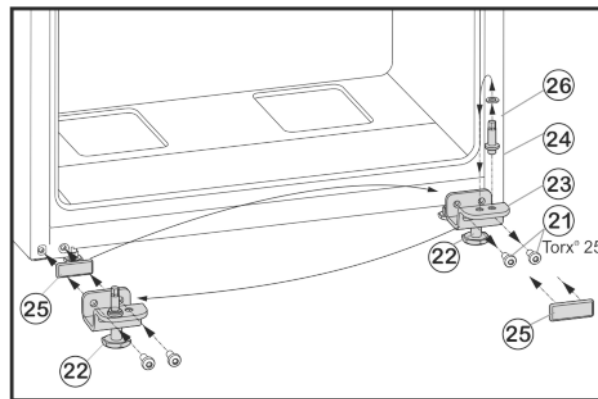

Fig. 6
- ▶ Unscrew fastening screws Fig. 6 (21).
- ▶ Remove the lower bearing block Fig. 6 (23), complete with bearing bolt Fig. 6 (24), washer Fig. 6 (26) and adjustable foot Fig. 6 (22).
- ▶ Unscrew the bearing bolt Fig. 6 (24), complete with washer Fig. 6 (26), re-locate it into the mounting hole on the opposite side of the bearing block and tighten again.
- ▶ Carefully remove the cover plate Fig. 6 (25) and re-locate it to the other side.
- ▶ Fasten the lower bearing block Fig. 6 (23), complete with bearing bolt Fig. 6 (24), washer Fig. 6 (26) and adjustable foot Fig. 6 (22) to the new hinge side, with the help of a cordless screwdriver if necessary, and **tighten (with 4 Nm)** once again.
- ▶ Lower the bottom door onto the bearing bolt Fig. 6 (24).
- ▶ Unscrew the adjustable foot *Fig. 6 (22)* on the lower bearing block *Fig. 6 (23)* until it reaches the floor.